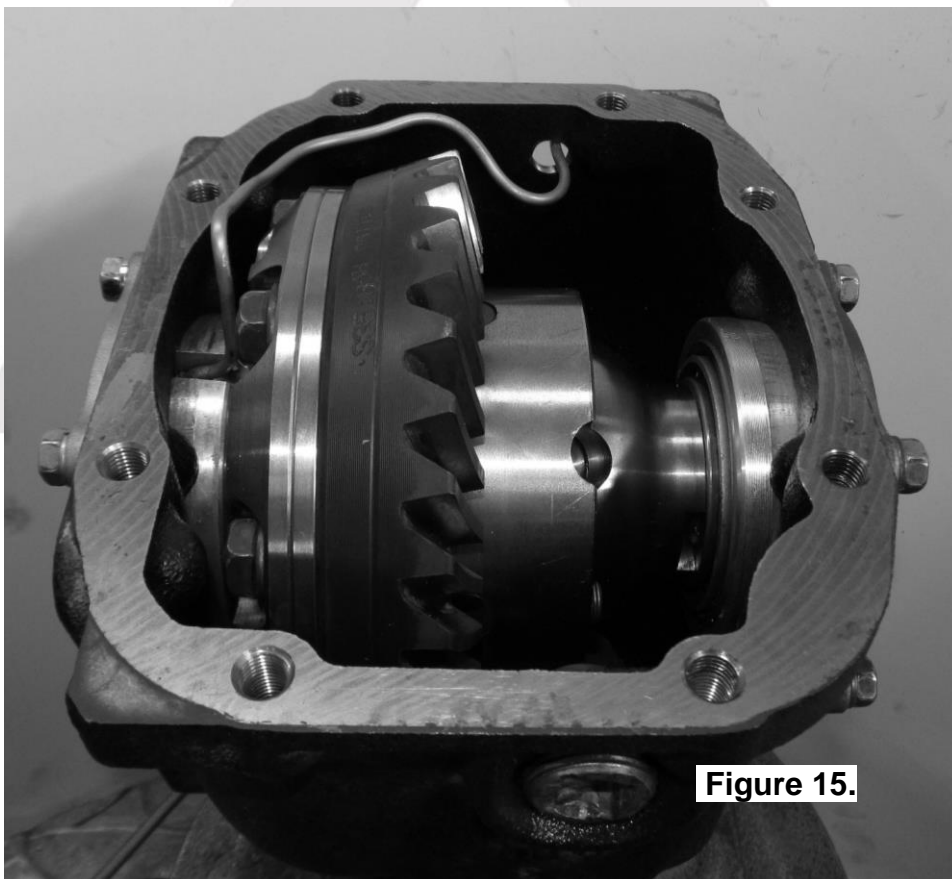

Figure 15.
- Without using sharp, jagged tools such as pliers (your hands are the best tool for this job), bend the seal housing tube so that it closely follows the profile of the differential and ring gear before protruding through the bulkhead port in the differential housing (Fig. 15. & 16.).